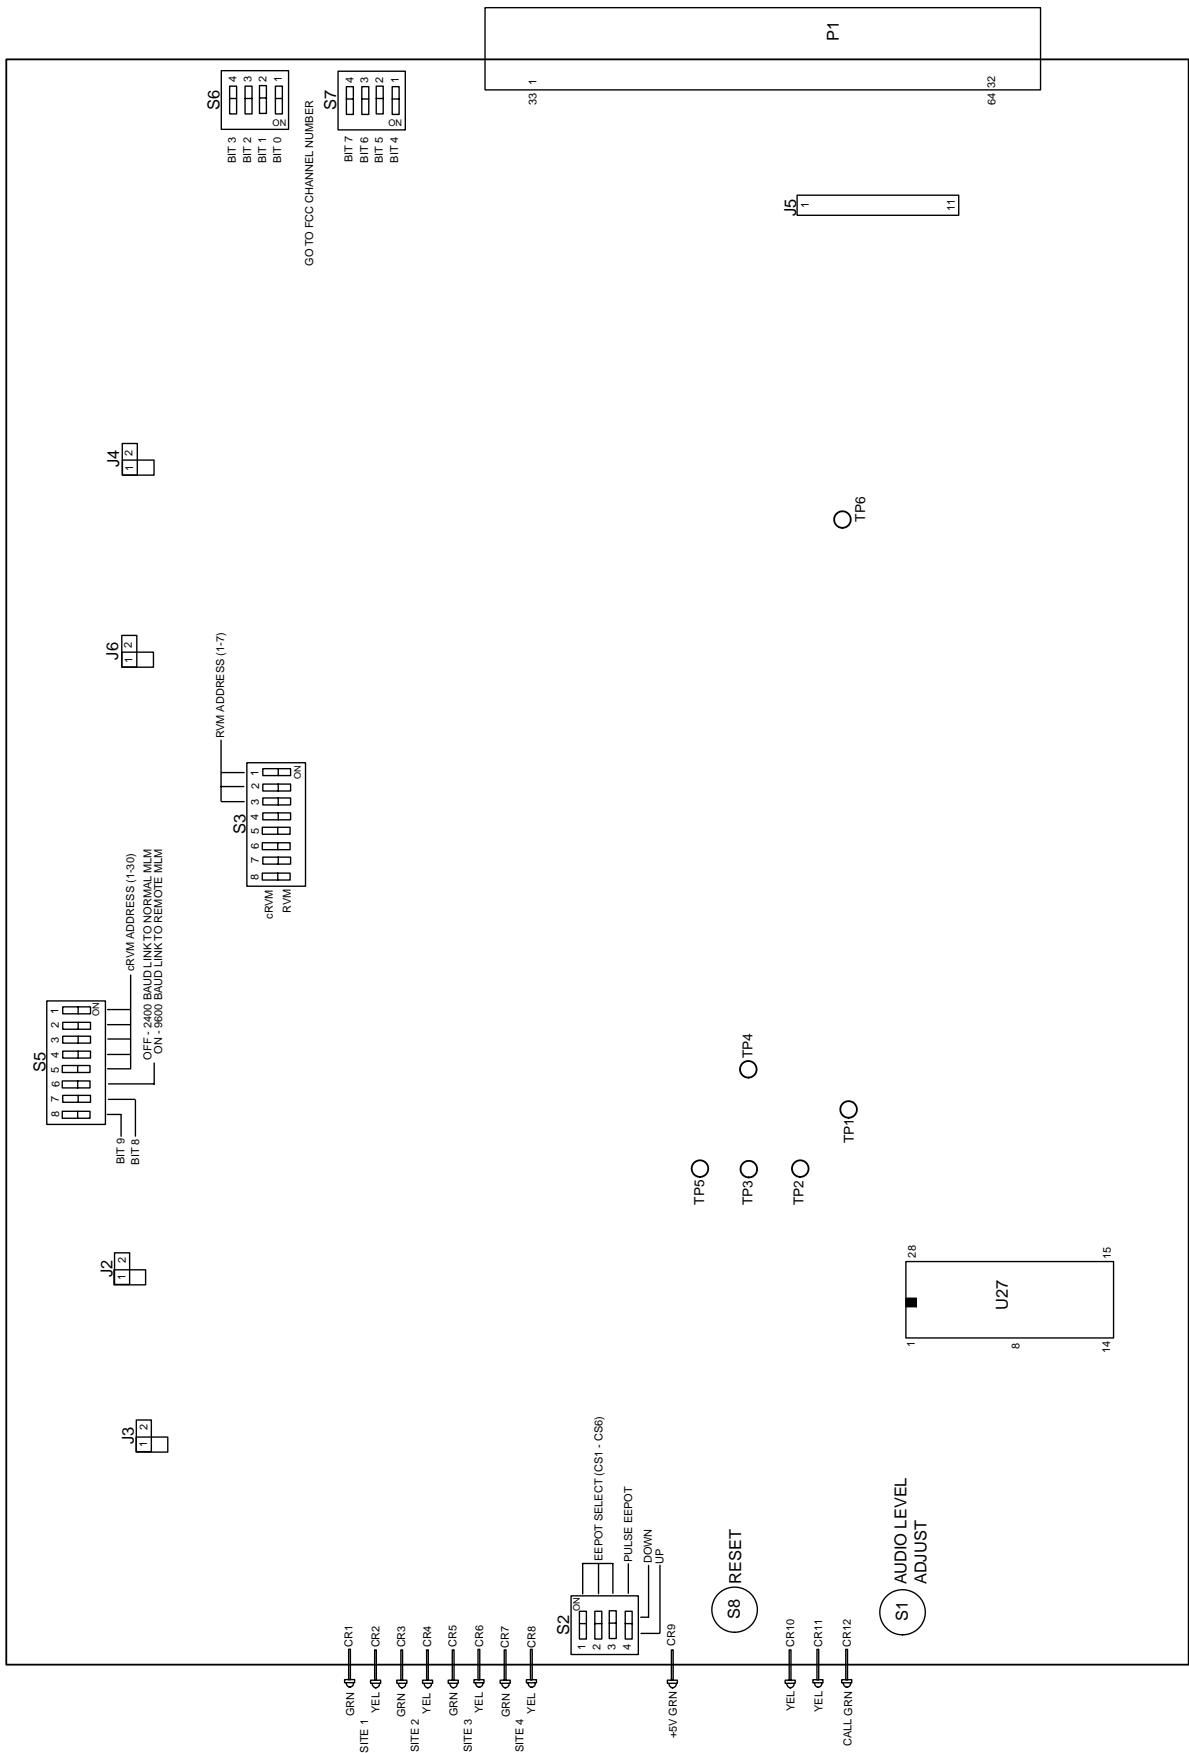

Figure 2-4 RVM ALIGNMENT POINTS
14. The level should be at -12 dBm with a 1 kHz tone. If incorrect and no tuning of the Voter output has been completed, the RVM output EEPOT needs to be adjusted (see Figure 2-4).